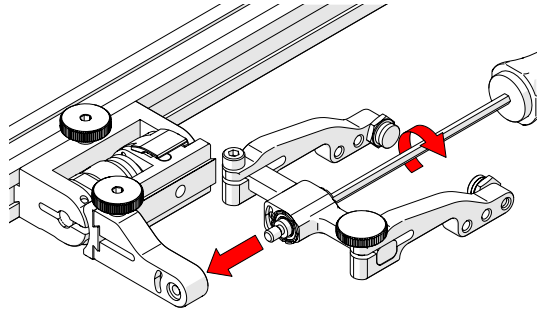

Fig. 123 - Install yoke to swing arm
6. Using the 3 mm hex driver, screw the yoke pivot screw into the opposite side of the probe holder swing arm (*Fig. 123*). Ensure the yoke is level to avoid issues with the plunger/set screw.